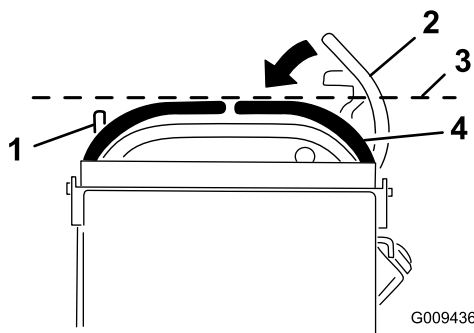

Figure 67
3. Push the right motion-control lever down out of the NEUTRAL-LOCK position (Figure 67).
4. Check if the right motion-control lever aligns horizontally with the left motion-control lever (Figure 67).